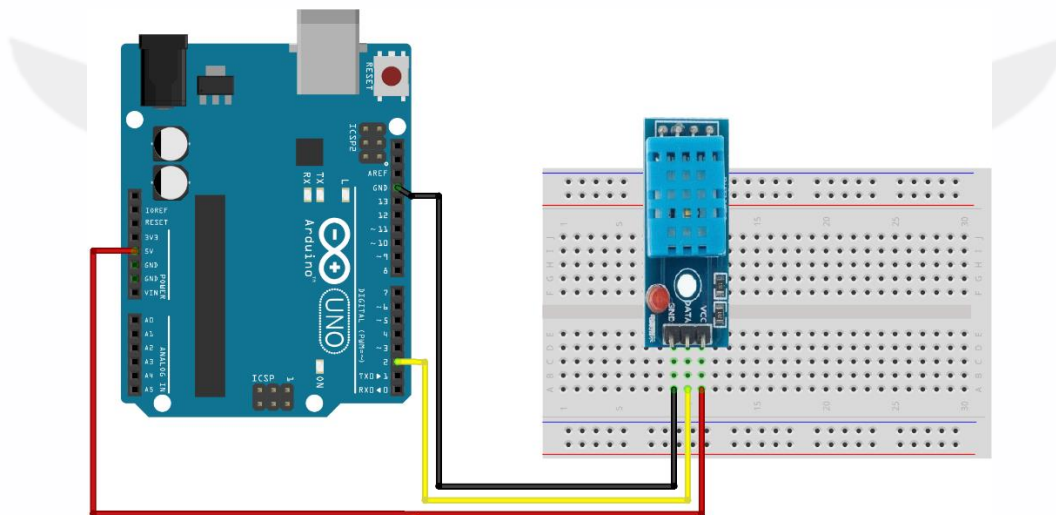

Figure 4.1 – Wiring diagram for DHT11 sensor with Arduino UNO R4 Minima
- a. Connect the DHT11 sensor as shown in the **Wiring Diagram (Figure 4.1)**.